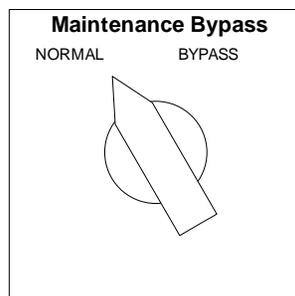

Fig. 4-39
Step 7: Rotate the **Maintenance Bypass** switch back to the “normal” position (Fig. 4-39).